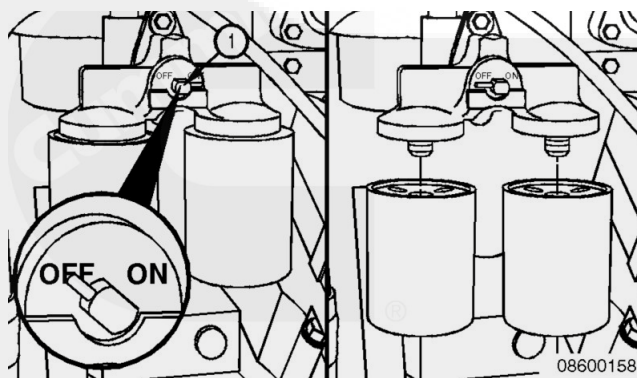

Figure 7-27 Unscrew coolant filters
3. As shown in Figure 7-27, turn the valve on the coolant filter head to the OFF position to prevent coolant loss. Unscrew the coolant filters.